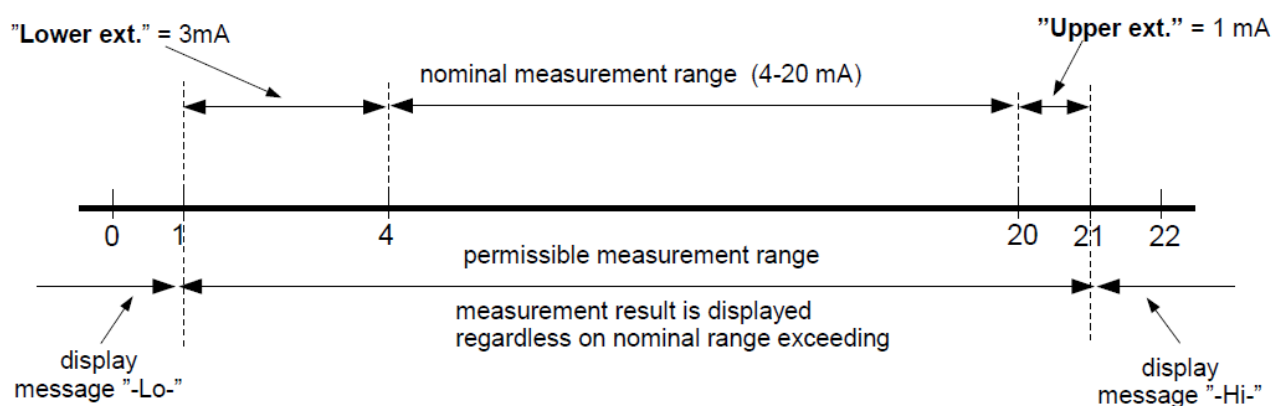

Fig. 7.21. Defining permissible measurement range for an example of settings of **"Upper ext."** and **"Lower ext."** parameters (for nominal measurement range 4-20 mA)
- "Upper ext."** - parameter defining the allowable range of input currents (Fig. 7.21).